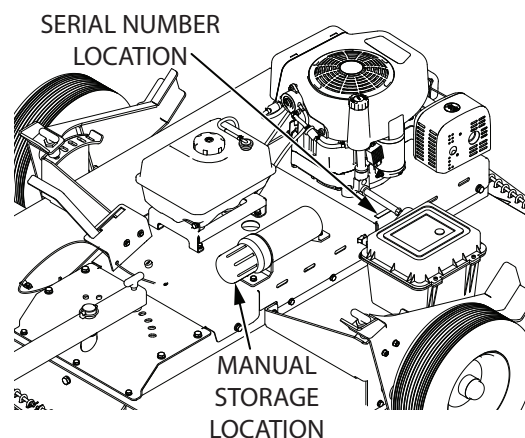

FIGURE 1: Serial Number & Manual Location
Record the model number and serial number (**SEE FIGURE 1**) in the space provided for easy reference. Warranty is valid only if the completed registration is received by Acreage™ within 30 days of purchase. You can register your warranty online by visiting www.acreageimplements.com. If you do not have a computer, call our customer service department at (800) 345-6007 Mondays through Fridays from 8 a.m. to 5 p.m. CST.
- Ensure this manual is stored with the machine and all operators are aware of its location. **SEE FIGURE 1**